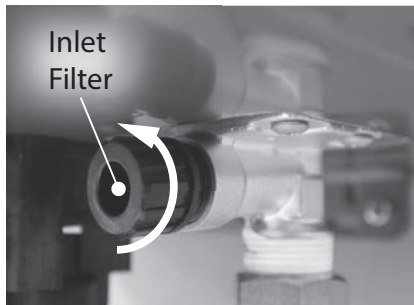

Figure 189 - Removing the inlet filter
- 7 Locate and remove the inlet filter as shown in Figure 189 to drain any residual water left in the system. Place a bucket or pan underneath inlet filter to collect water during removal.